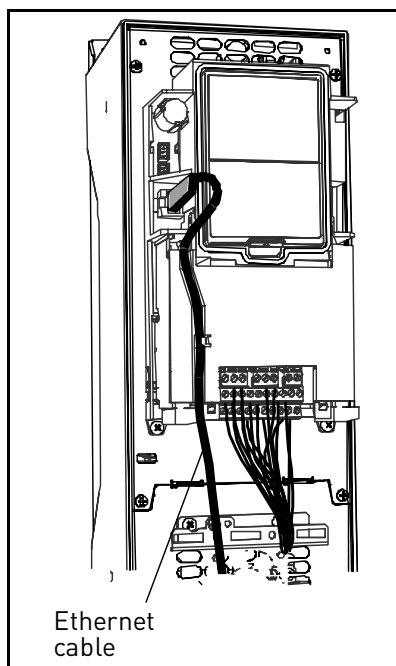

Figure 32.
- 1 Connect the Ethernet cable (see specification on page 41) to its terminal and run the cable through the conduit as shown in Figure 32.